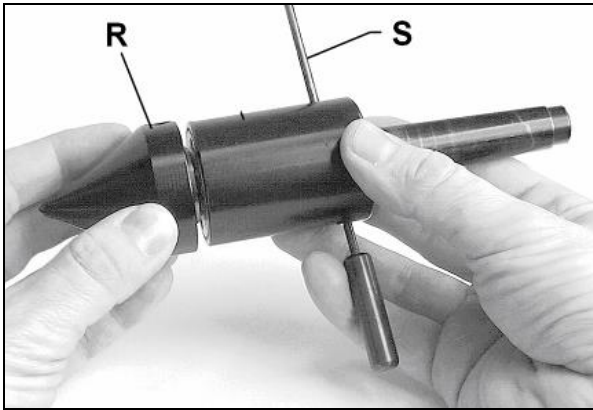

Fig 22
To screw off the cone (R, Fig 22) the life centre must be locked against rotation with the supplied pin (S).